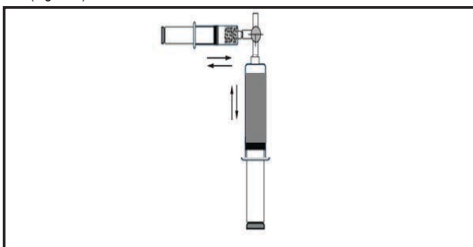

Figure 9.
- 2.3 Gently push some of the drug solution into the microsphere syringe and then continue to slowly push the microsphere-drug solution back and forth a few times between both syringes so that the microspheres are adequately suspended. Push the entire microsphere-drug solution into the 60 ml syringe (Figure 9).